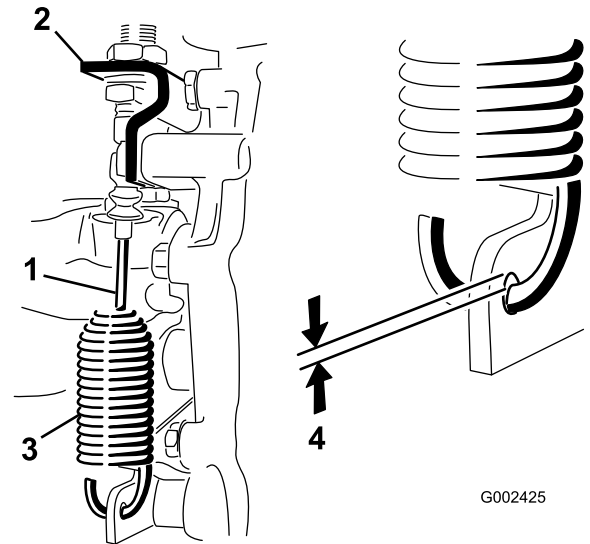

Figure 54
2. Loosen the jam nuts securing the differential-lock cable to the bracket on the transaxle (Figure 54).